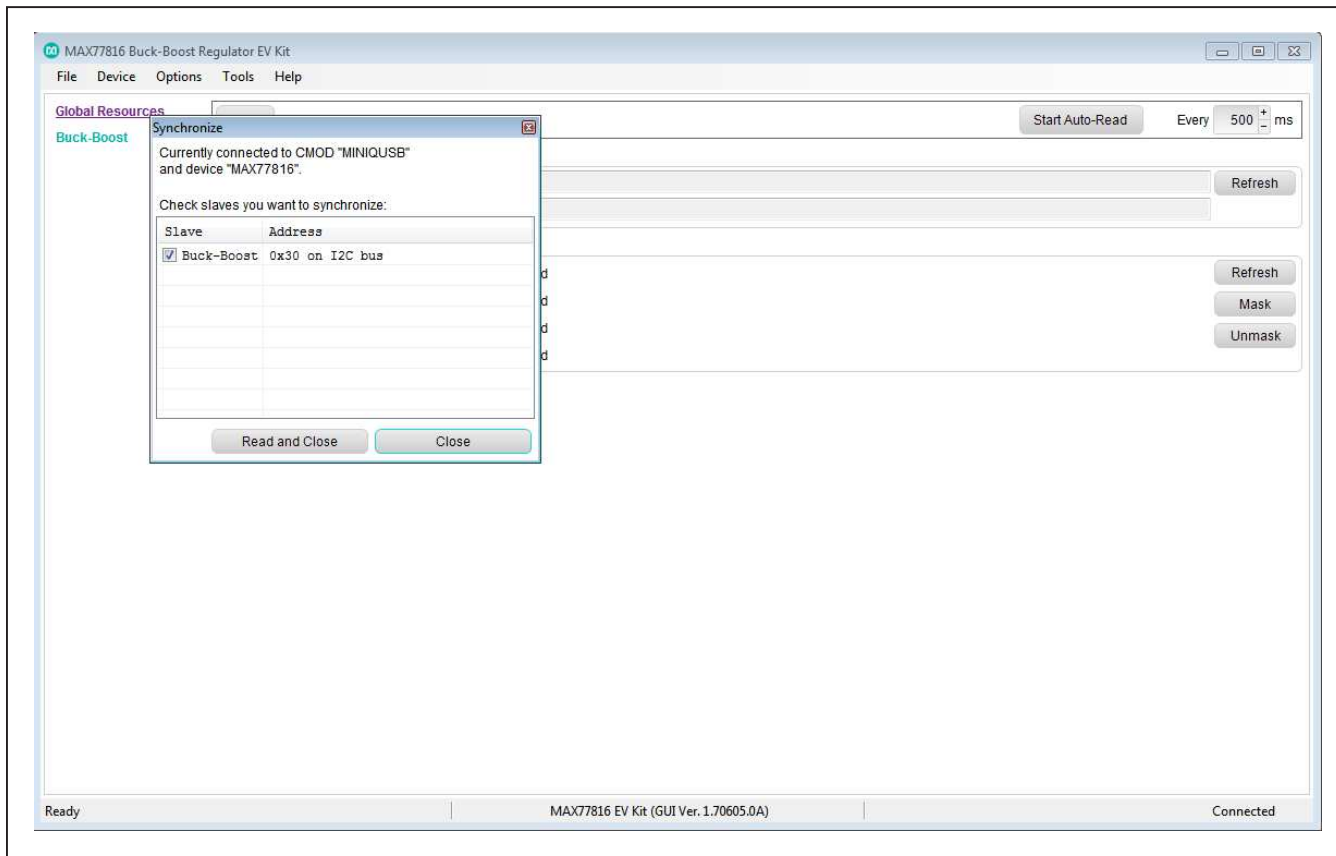

Figure 3. MAX77816 EV Kit Software Window (Connect)
- 9) Start the EV kit software by opening its icon in the **Start | Programs**. The EV kit software main window appears. Click on **Device** then **Connect**. If connection is successful, a window displaying the message **Currently connected to CMOD "MINIQUSB" and device "MAX77816"** appears as shown in Figure 3. Click **Read and Close**.